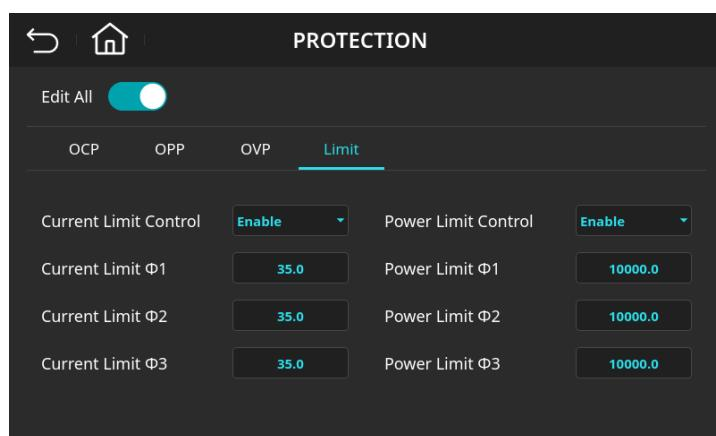

Figure 4-57 Output Current/Power Limit Protection Page (Current Limit  $\Phi 1/\Phi 2/\Phi 3 = 35.0$  A, Power Limit  $\Phi 1/\Phi 2/\Phi 3 = 10000.0$  VA)
8. Enter **1**, **0**, **0**, **0**, **0** then press **Enter** to change the value to “10000.0”, as shown in Figure 4-57.